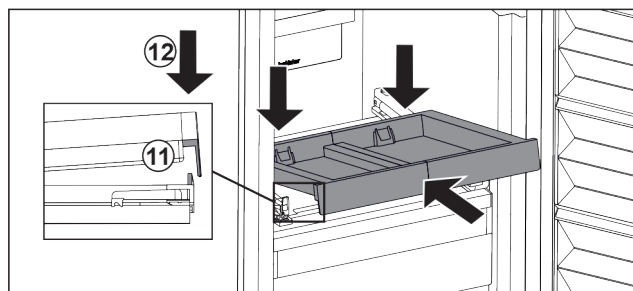

Fig. 22
- Slide it in at an angle. Make sure that the stop is behind the lug on both sides. Fig. 22 (11)
- Lower the pull-out board at the front. Fig. 22 (12)